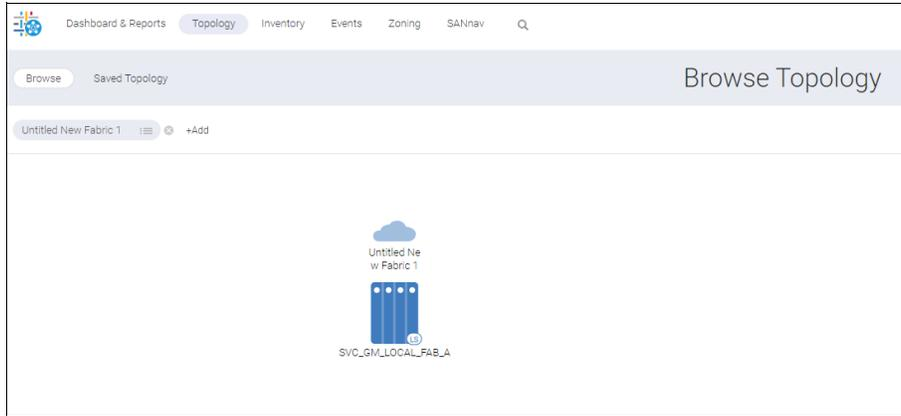

Figure 5-90 Untitled fabric 1 topology
3. Click the **Menu** icon to select a fabric or type the fabric name directly into the context field (Figure 5-90 on page 183).